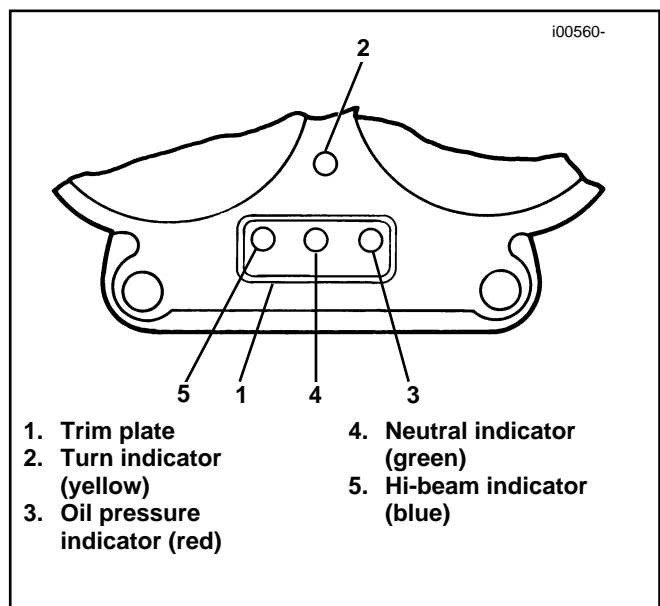

Figure 6. Indicator Light Locations
1. See Figure 6. Position indicator lights in bracket as shown.